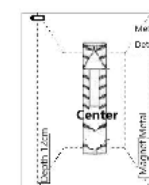
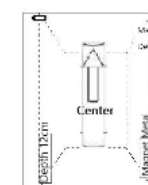
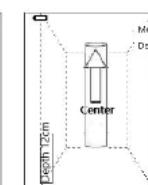

Figure 4
Figure 5
Figure 6
- Metal icons: the steel bar icon represents magnetic metal, and the measured object is generally steel bar; the copper pipe icon means non-magnetic metal, the measured objects are generally copper pipe or alloy. When the instrument is judged to be magnetic metal or non-magnetic metal, the distance from the instrument to the metal object will be displayed (as shown in Figure 4 and Figure 5); otherwise, it will not be displayed (as shown in Figure 6).